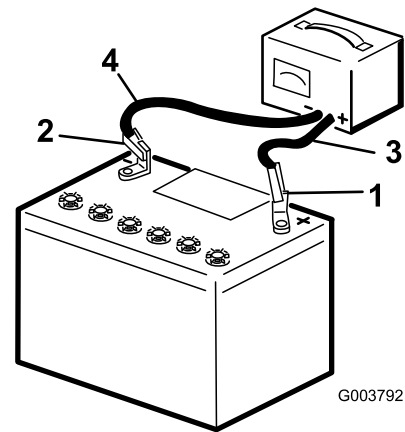

Figure 30
3. Charge the battery for 10 to 15 minutes at 25 to 30 amps or 30 minutes at 4 to 6 amps (Figure 30). Do not overcharge the battery.
4. When the battery is fully charged, unplug the charger from the electrical outlet, then disconnect the charger leads from the battery posts (Figure 30).